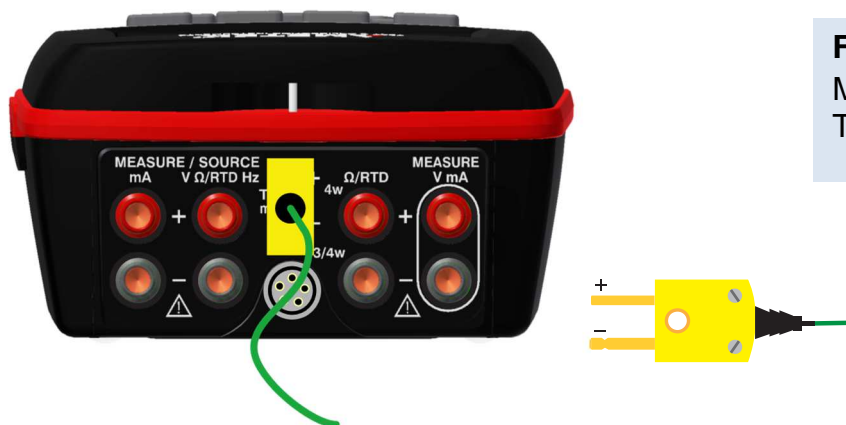

Figure 4
1. Attach the thermocouple leads to the TC mini plug, and insert the plug into the input/output of the ASC-400 calibrator, as shown in Figure 4.